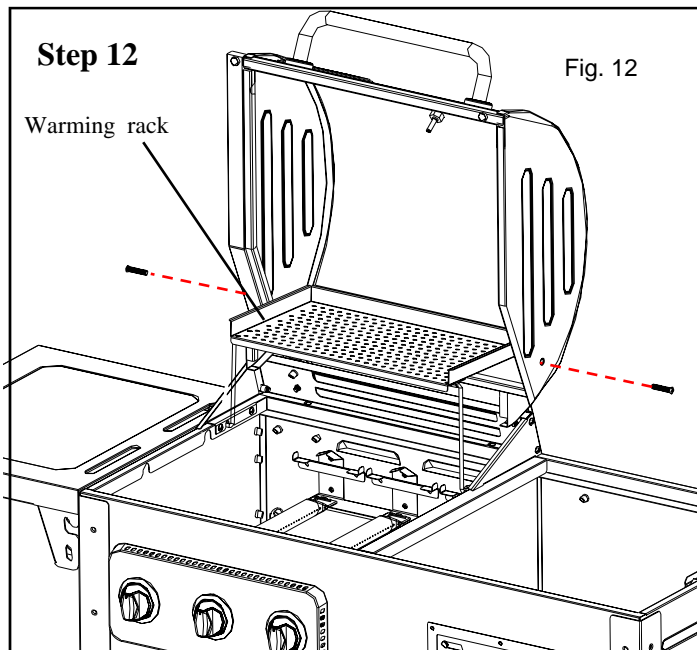

Fig. 12
*Locate:* Warming Rack, (2) M6\*35 Bolts
Refer to Fig. 12, attach the back of the Warming Rack to the gas grill lid with (2) M6\*35 Bolts as shown. Insert the Front Wire Legs into the holes on each side of the Grill. Open and close the Lid to be certain the Warming Rack moves smoothly.